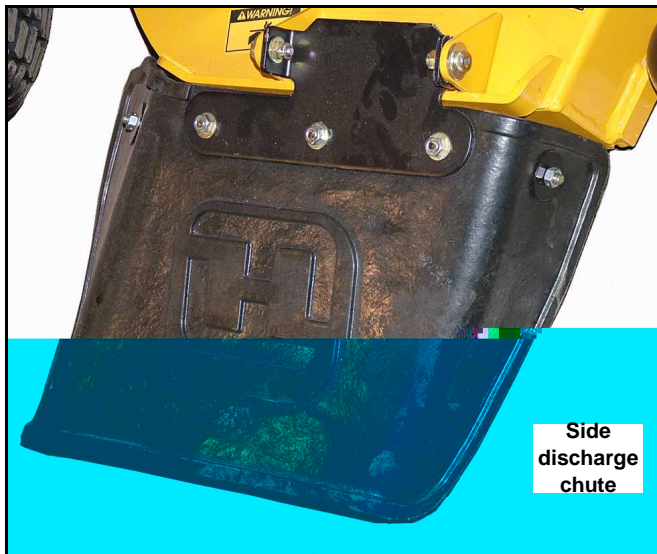

Figure 3-9
**WARNING:** Never direct discharge of material from mower deck towards bystanders. Do not operate the mower without either the discharge chute or the entire grass collection system in place. Fig. 3-9